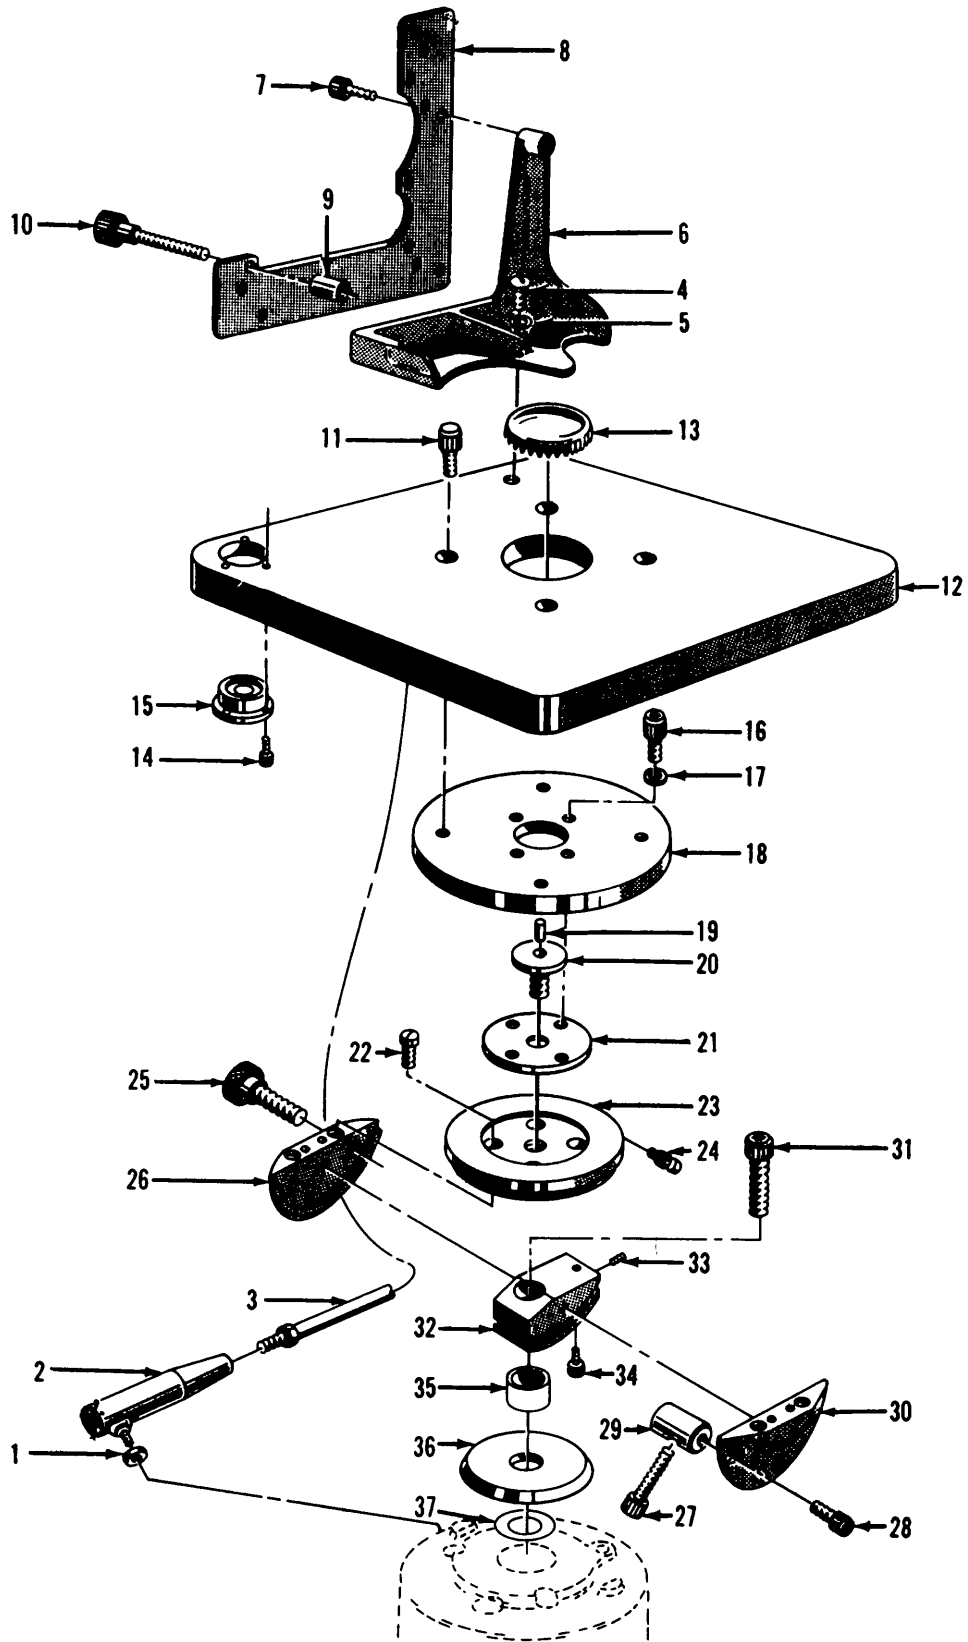

Figure 9. Exploded view of table and head assembly.
(1) Remove ball joints (2, fig. 9) by loosening nuts (1) and unscrewing ball joints at table (12) and table frame housing.
(2) Remove ball joints with tie rod (3).
(1) Clean tie rod and ball joints using an approved cleaning compound such as MIL-C-16553 and dry thoroughly.
(2) Inspect tie rod for a bent condition, stripped or worn threads. Check ball joints and fasteners for damaged or worn condition. Straighten a bent tie rod.
(3) Replace any parts found to be defective.
c. *Installation.* Install tie rod (3, fig. 9) and ball joints (2) on table (12) and table frame housing (59, fig. 10) by securing at ball joints and tightening down nuts (1, fig.9).
(1) Remove screws (4, fig. 9) and washers (5) securing adapter (6) to table. Remove adapter.
(2) Remove four socket head screws (11) securing table (12) to head. Remove table.
(3) Remove and disassemble head assembly and table using index number sequence as given in figure 9 for guidance.